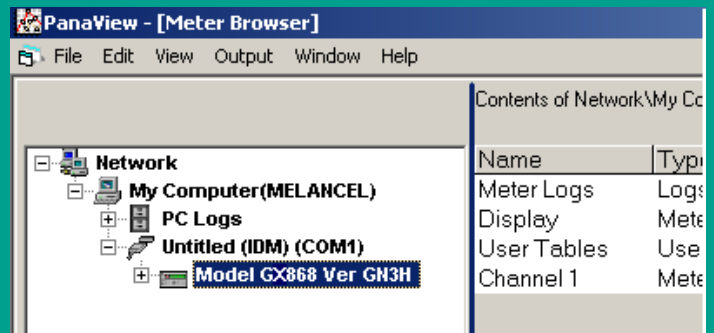

Figure 23: Updated network tree
If the initialization is successful, the meter browser shows a listing similar to figure 23.
1. Highlight the meter (as shown in figure 23).